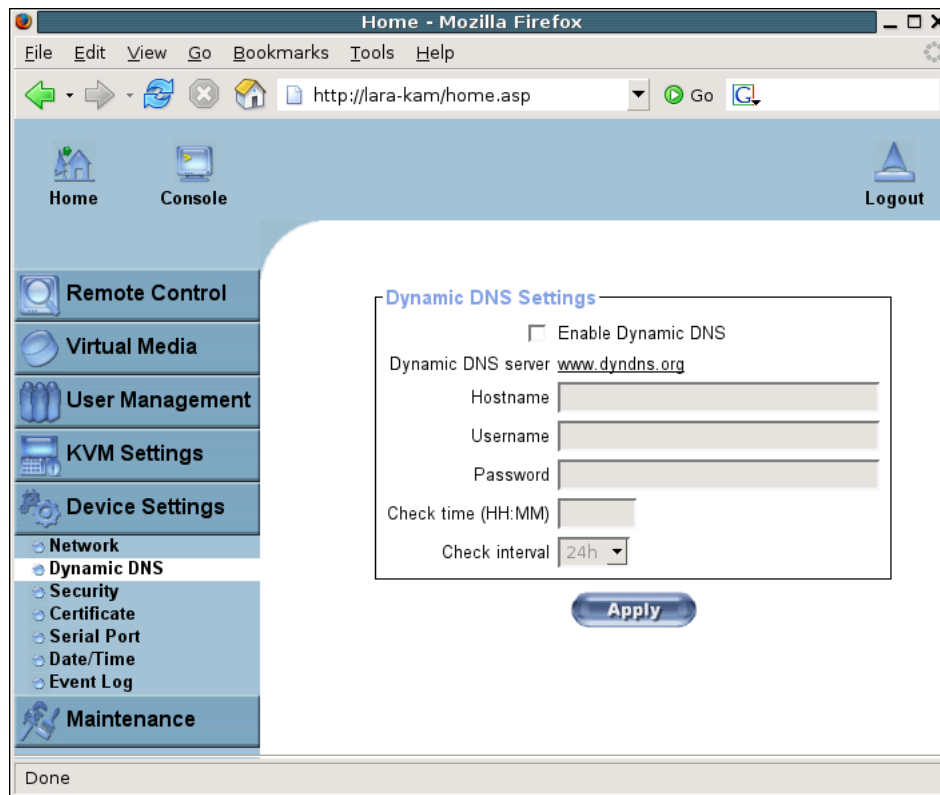

Figure 6-21. Dynamic DNS
- Enter the Dynamic DNS Settings configuration dialog as shown in Figure 6-21 .